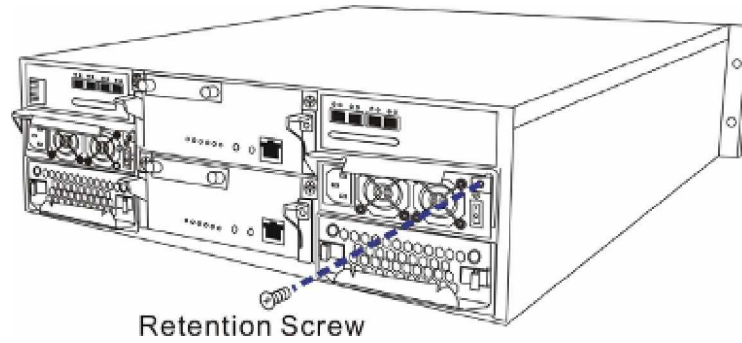

Figure 5-22: Removing the PSU Retention Screw
**Step 3. Remove the PSU retention screw** at the top right-hand side of the PSU. (See **Figure 5-22**)